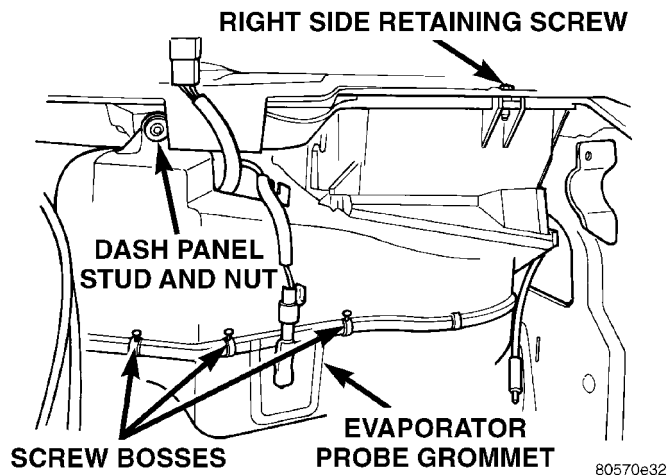

Fig. 45 Retaining Screws
(8) Remove the right side retaining screw (Fig. 45).
(9) Remove remaining nut located on dash panel stud.
(10) Disconnect the blue five way connector from the plenum. Module wiring harness must be removed with module.
(11) Remove assembly from the vehicle.